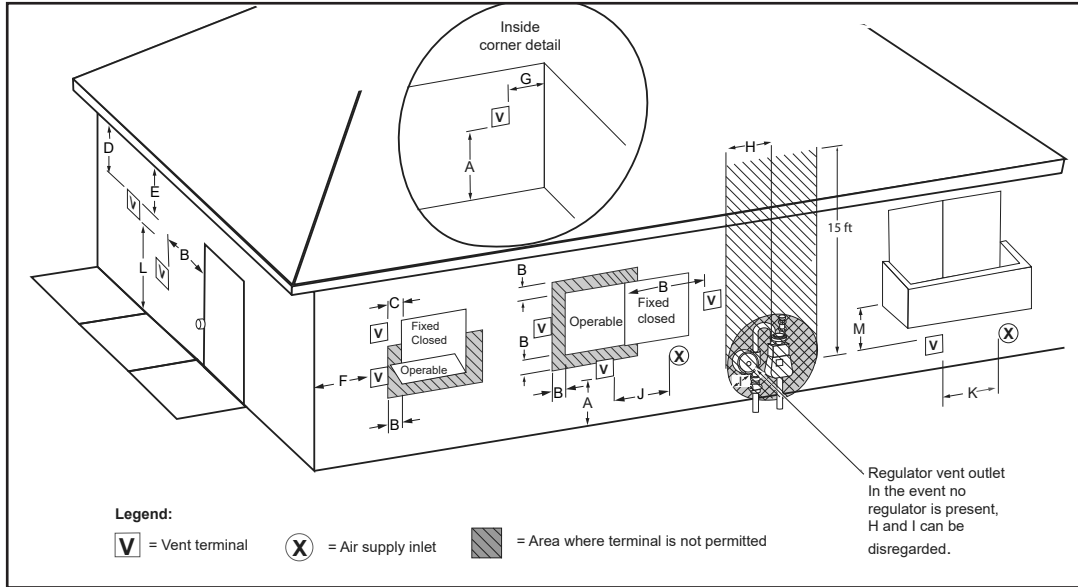

Figure 27. Power Vent Using Outside Air
2. If installing only vent (exhaust) piping in a Power Vent configuration through a sidewall; ensure that all exterior sidewall clearance requirements for the termination, shown in **Figure 27** (page 29), are being maintained. These clearances and those cited by local and national codes must be maintained.